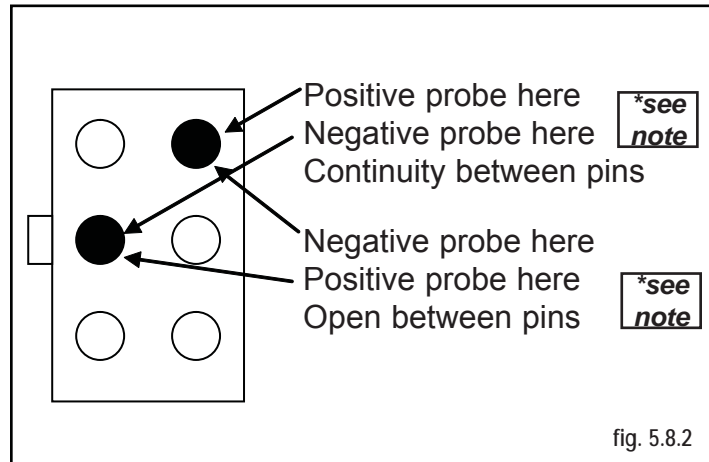

fig. 5.8.2
10. Tilt is in the full down position. (Fig 5.8.2)